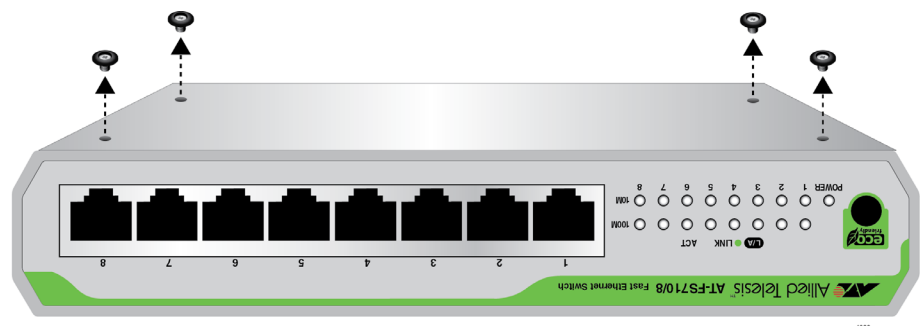

Figure 18. Removing the Rubber Feet
2. Turn the switch upside down and remove the rubber feet by removing the attaching screws. See Figure 18.